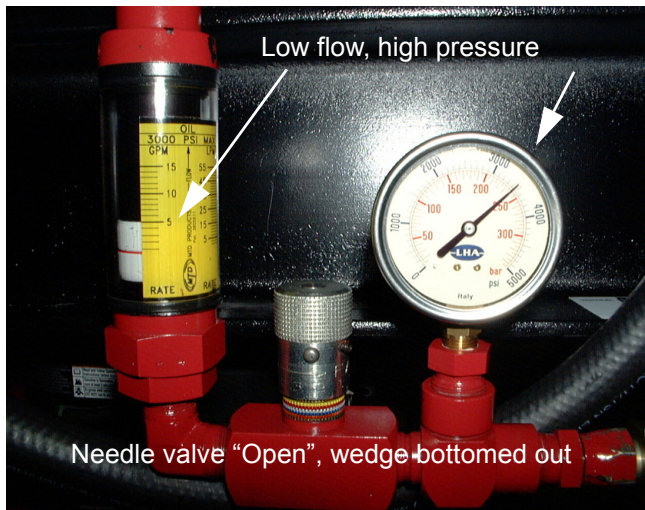

Figure 3
5. Record the PSI. _____ (This is PSI "B") See Figure 3.